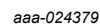
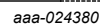
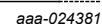

Fig. 5. N-stage ripple counter using ripple clock
Fig. 6. Synchronous n-stage counter using ripple carry/borrow
Fig. 7. Synchronous n-stage counter with parallel gated carry/borrow
The 74HC191 is an asynchronously presetable 4-bit binary up/down counter. It contains four master/slave flip-flops with internal gating and steering logic to provide asynchronous preset and synchronous count-up and count-down operation. Asynchronous parallel load capability permits the counter to be preset to any desired value. Information present on the parallel data inputs (D0 to D3) is loaded into the counter and appears on the outputs when the parallel load ($\overline{PL}$) input is LOW. This operation overrides the counting function. Counting is inhibited by a HIGH level on the count enable ($\overline{CE}$) input. When $\overline{CE}$ is LOW internal state changes are initiated synchronously by the LOW-to-HIGH transition of the clock input. The up/down ($\overline{U/D}$) input signal determines the direction of counting as indicated in the function table. The $\overline{CE}$ input may go LOW when the clock is in either state, however, the LOW-to-HIGH $\overline{CE}$ transition must occur only when the clock is HIGH. Also, the $\overline{U/D}$ input should be changed only when either $\overline{CE}$ or CP is HIGH. Overflow/underflow indications are provided by two types of outputs, the terminal count (TC) and ripple clock ($\overline{RC}$). The TC output is normally LOW and goes HIGH when a circuit reaches zero in the count-down mode or reaches '15' in the count-up-mode. The TC output will remain HIGH until a state change occurs, either by counting or presetting, or until $\overline{U/D}$ is changed. Do not use the TC output as a clock signal because it is subject to decoding spikes. The TC signal is used internally to enable the $\overline{RC}$ output. When TC is HIGH and $\overline{CE}$ is LOW, the $\overline{RC}$ output follows the clock pulse (CP). This feature simplifies the design of multistage counters as shown in Fig. 5 and Fig. 6. In Fig. 5, each $\overline{RC}$ output is used as the clock input to the next higher stage. It is only necessary to inhibit the first stage to prevent counting in all stages, since a HIGH on $\overline{CE}$ inhibits the $\overline{RC}$ output pulse. The timing skew between state changes in the first and last stages is represented by the cumulative delay of the clock as it ripples through the preceding stages. This can be a disadvantage of this configuration in some applications. Fig. 6 shows a method of causing state changes to occur simultaneously in all stages. The $\overline{RC}$ outputs propagate the carry/borrow signals in ripple fashion and all clock inputs are driven in parallel. In this configuration the duration of the clock LOW state must be long enough to allow the negative-going edge of the carry/borrow signal to ripple through to the last stage before the clock goes HIGH. Since the $\overline{RC}$ output of any package goes HIGH shortly after its CP input goes HIGH there is no such restriction on the HIGH-state duration of the clock. In Fig. 7, the configuration shown avoids ripple delays and their associated restrictions. Combining the TC signals from all the preceding stages forms the $\overline{CE}$ input for a given stage. An enable must be included in each carry gate in order to inhibit counting. The TC output of a given stage is not affected by its own $\overline{CE}$ signal therefore the simple inhibit scheme of Fig. 5 and Fig. 6 does not apply. Inputs include clamp diodes. This enables the use of current limiting resistors to interface inputs to voltages in excess of V_{CC} .